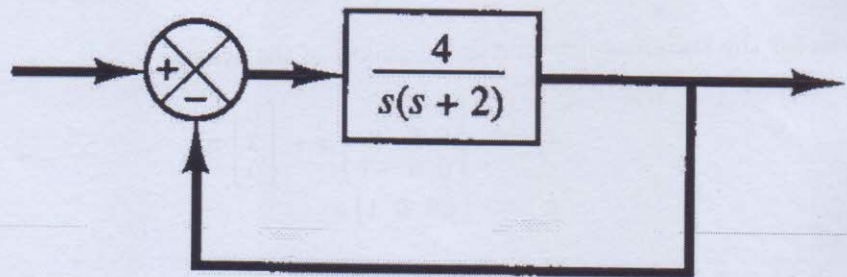

Figure 1:
- Q.3 A.** Design the series lead compensator using bode plot for the system in Figure 1 to achieve velocity error constant  $K_v = 20 \text{ sec}^{-1}$ , phase margin  $PM \geq 50^\circ$  and gain margin  $GM \geq 10 \text{ dB}$ .